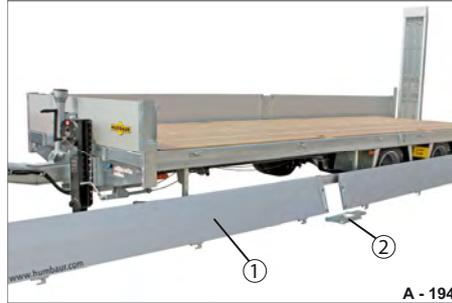

Fig. 135 Setting down the platform gates safely
- ▶ Make sure that the removed platform gates (Fig. 135/1) and middle post (Fig. 135/2) are set down safely to avoid damage.